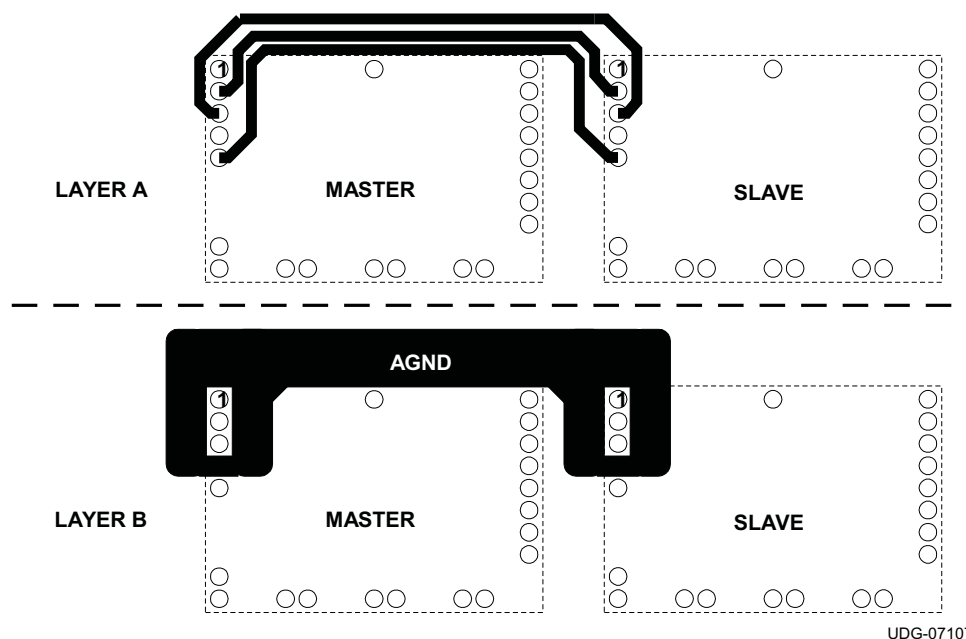

Figure 22. Recommended Layout of Inter-Connection Pins Between Two Current Sharing Modules
The PTH08T255W module is capable of being configured in parallel with another PTH08T255W module to share load current. To parallel the two modules, it is necessary to configure one module as the Master and one module as the Slave. To configure a module as the Master, connect the CONFIG pin (pin 1) to GND. The CONFIG pin of the Slave must be connected to V_I . In order to share current, pins 2 thru 5 of both the Master and Slave must be connected between the two modules. See Figure 22 for the recommended layout of pins 2 thru 5. The module that is configured as the MASTER is used to control all of the functions of the two modules including Inhibit ON/OFF control, AutoTrack sequencing, TurboTrans, SmartSync, +/- Remote Sense, and Output Voltage Adjust. See the current sharing diagram in Figure 19 for connections. The MASTER and the SLAVE must be powered from the same input voltage supply.
(1) For more details on the pin descriptions, please refer to the 'Terminal Functions' described in Table 1
(2) See Layer A in Figure 22 for recommended layout
(3) See Layer B in Figure 22 for recommended layout
In current sharing applications the V_I pins of both modules must be connected to the same input bus. The V_O pins of both modules are connected together to power the load. The GND pins of both modules are connected via the GND plane. Four other inter-connection pins are connected between the modules. Figure 22 shows the required layout of the inter-connection pins for two modules configured to share current. Notice that the Share (pin 2) connection is routed between the Comp (pin 3) and CLKIO (pin 5) connections. AGND (pin 4) should be connected as a thicker trace on an adjacent layer, running parallel to pins 2, 3 and 5. AGND must not be connected to the GND plane.